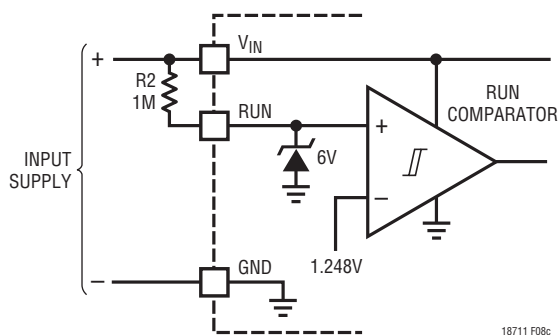

Figure 8c. External Pull-Up Resistor On RUN Pin for “Always On” Operation
**For applications where the RUN pin is only to be used as a logic input, the user should be aware of the 7V Absolute Maximum Rating for this pin!** The RUN pin can be connected to the input voltage through an external 1M resistor, as shown in Figure 8c, for “always on” operation.